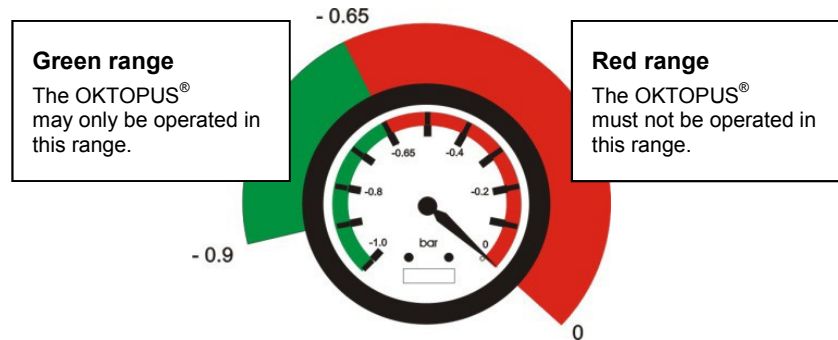

Fig. 8: Vacuum gauge
The OKTOPUS® GLASS-Jack GL-CC 1200 mounted to the crane is ready for use, when a sufficient vacuum level is reached in both vacuum tanks. The current vacuum level is constantly indicated on the vacuum gauges (fig. 8).
- ⇒ Move the crane with the attached OKTOPUS® GLASS-Jack GL-CC 1200 to the construction elements. Position the suction pads parallel to the suction area of the load by pressing the buttons “Swivel to the left” (3), “Swivel to the right” (4), “Tilt down” (5), “Tilt up” (6) as well as “Rotate to the left” (9) and “Rotate to the right” (10) of the radio remote control as well as by the driving and lifting movements of the crane.
- ⇒ Press the button “Suction” (7). The glass or façade element is suctioned.
- ⇒ Only lift the load after the red warning light and the alarm buzzer have turned off, the vacuum gauges indicate that the working area has been reached (see fig. 8), the green signal light is illuminated and you have ensured that nobody is in the hazardous area.
- ⇒ Bring the suction pads including the load into the required position by pressing the buttons (3) to (6) as well as (9) and (10) of the radio remote control and as well as by the driving and lifting movements of the crane.
- ⇒ Afterwards the construction element is released. First press the button "Release" (8) and then the "Release return key". The confirmation is an additional safety measure against unintentional operating errors.